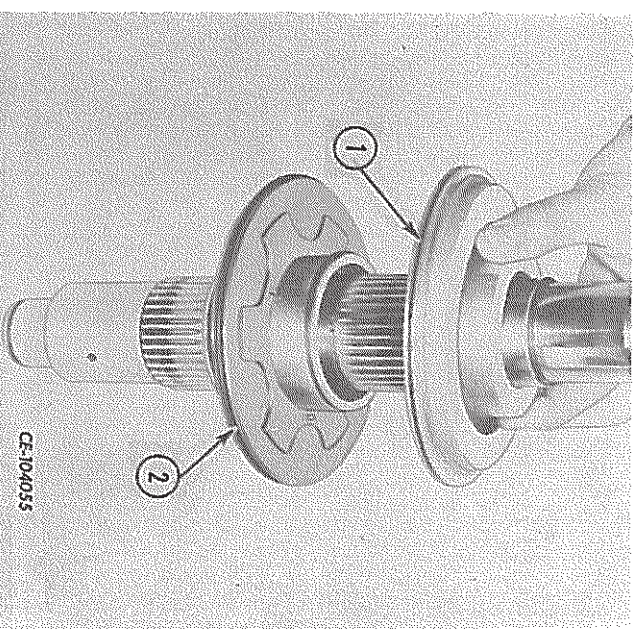

FIG. 53 — Removing the Force Piston
42. Tap around the outer diameter of the piston housing with a soft-faced hammer to free it from the sealing rings (1 and 2, Fig. 53) on the force piston and separator plate. In most cases these sealing rings will bind in the snap ring groove of the piston housing causing difficulty in removing the housing. For easier disassembly, it is suggested that the snap ring groove be filled with either a piece of brazing rod (approximate circumference of the force piston) or an "O" ring of the exact diameter of the snap ring groove.
43. Lift off the force piston (Fig. 53). Remove and discard the lathe cut seal ring (1) and the separator plate "O" ring (2).